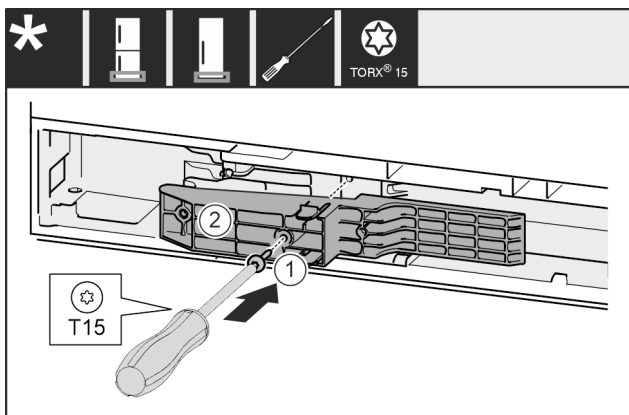

Fig. 67\*
- ▶ Insert adapter Fig. 67 (1) in the recess on the handle side.\*
- ▶ Tighten screw Fig. 67 (2) with screwdriver.\*